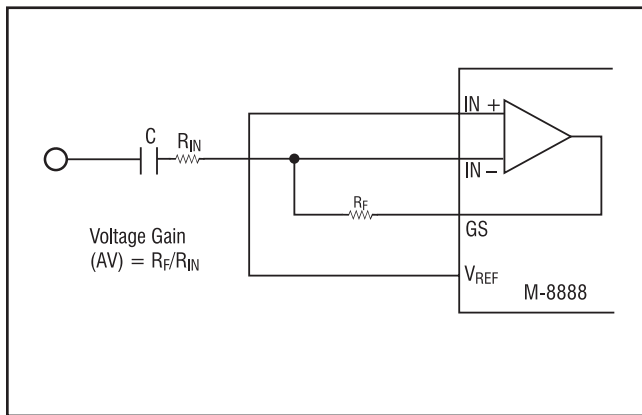
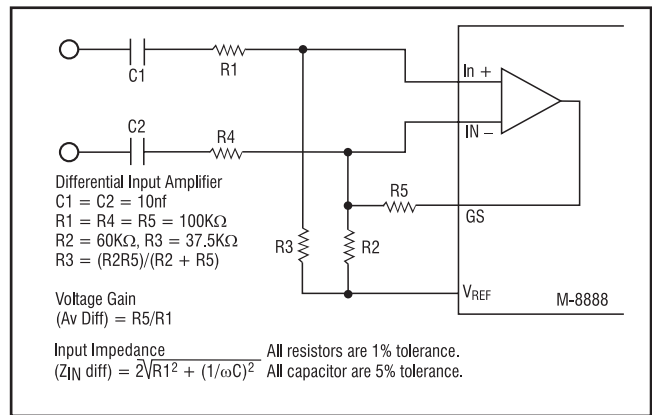

Figure 3 Single-Ended Input Configuration
Figure 4 Differential Input Configuration
The input arrangement consists of a differential input operational amplifier and bias sources (V_{REF}) for biasing the amplifier inputs at $V_{DD}/2$. Provisions are made for the connection of a feedback resistor to the op-amp output (GS) for gain adjustment. In a single-ended configuration, the input pins should be connected as shown in Figure 3. Figure 4 shows the necessary connections for a differential input configuration.